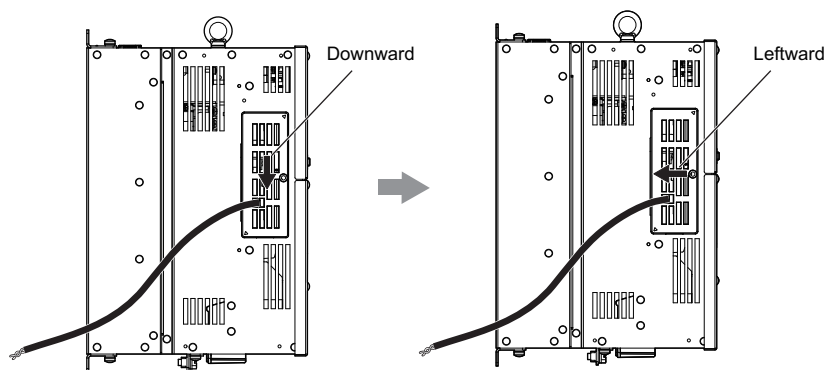

Figure 4.33 Sliding the CN19 Connector Cover into Place
6. Slide the CN19 connector cover back into place as shown in Figure 4.33.